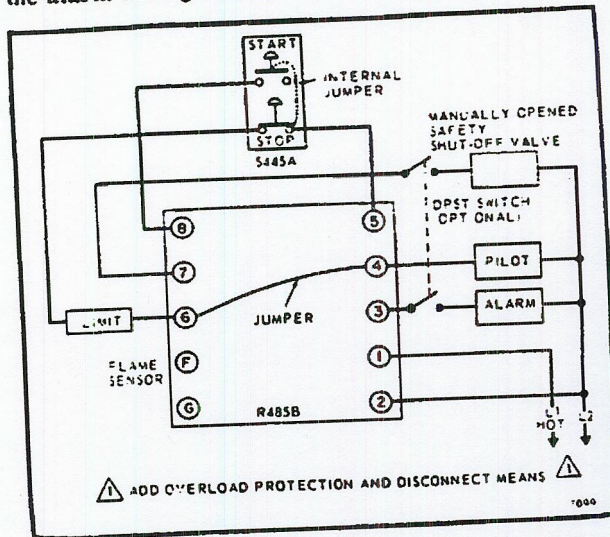
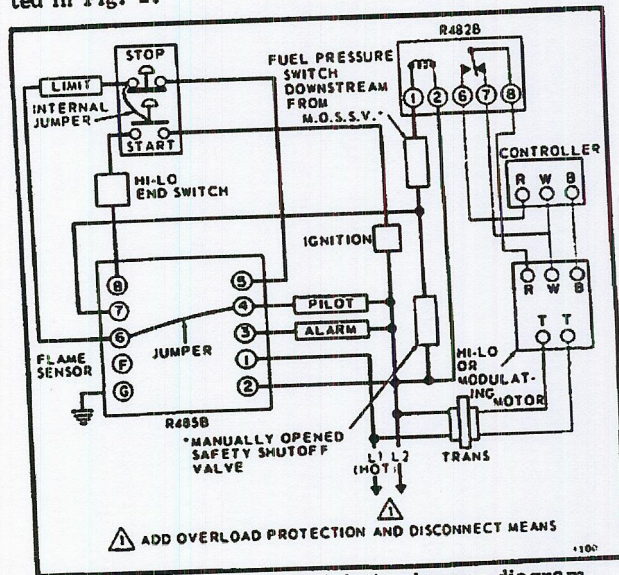

Fig. 2—Torch-ignited pilot, showing optional alarm silencing circuit using a dpst switch (see text).
Fig. 3—Hi-Lo or Modulating burner diagram.
Fig. 2 illustrates external connections to the R485B and S445A. If torch ignition is desired, a standard pushbutton, or a foot- or knee-operated switch, may be used in place of the S445A. Fig. 2 also illustrates one method of silencing the alarm during startup. With this arrangement the burner cannot operate with the alarm disconnected, but the annoyance caused by the alarm during startup can be eliminated.
Fig. 3 shows the use of a Hi-Lo or modulating motor with the Protectorelay control. Note that the starting circuit cannot be energized until the end switch on the Hi-Lo or modulating motor is in the low fire position. In addition, to prevent the Hi-Lo or modulating motor from running to the high fire position before the manually opened safety-shutoff valve is opened, a fuel pressure switch (connected downstream from the shut-off valve) is connected in series with the R482B Relay. This assures that the burner will light off in the low fire position before the controller can take command of the burner. This system may also be used with the alarm silencing switch illustrated in Fig. 2.
3. Pilot is lit. The flame sensor should immediately sense the presence of the flame and pull in the right hand (flame) relay. Release the start button electric ignition goes off. The main valve circuit is now energized and the free handle safety shutoff valve may be opened to light the main burner. If an alarm silencing switch is used as in Fig. 2, it must be closed.